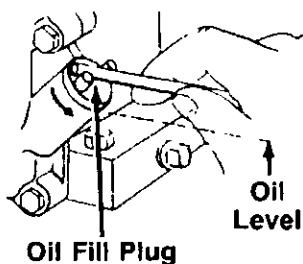

FIGURE 11.
1. Fill engine with oil by removing oil fill plug. See figure 11. With engine level, fill engine with oil to point of overflowing. Capacity is 1¼ pints. Replace oil fill plug.